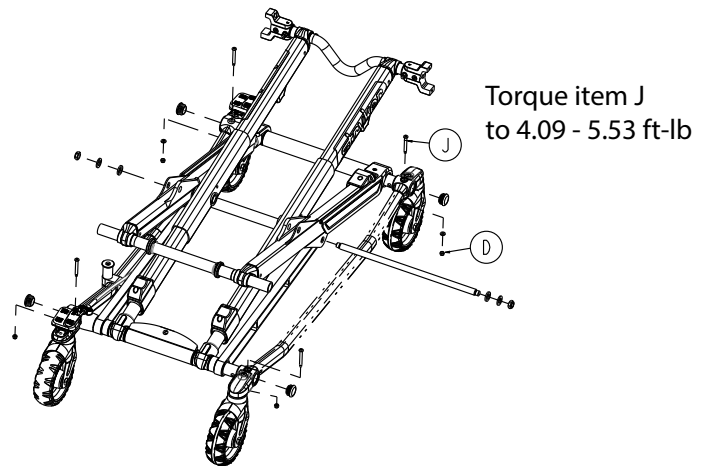

Figure 83 – Remove the head end bolt and nut
9. Using a T27 Torx driver and a 3/8" combination wrench, remove the caster mount bolt (J) and fiberlock nut (D) that secure the outer base tube (Figure 83). Save the bolt and nut. Repeat on the foot end.